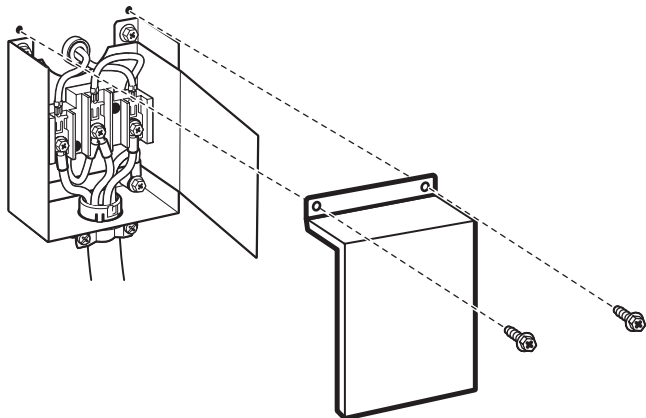

Figure 1
APPLIANCE CONTROL UNIT (ACU) - FIGURE 1
2. Remove the cover plate from the lower left corner of the back of the dryer. See figure 1.